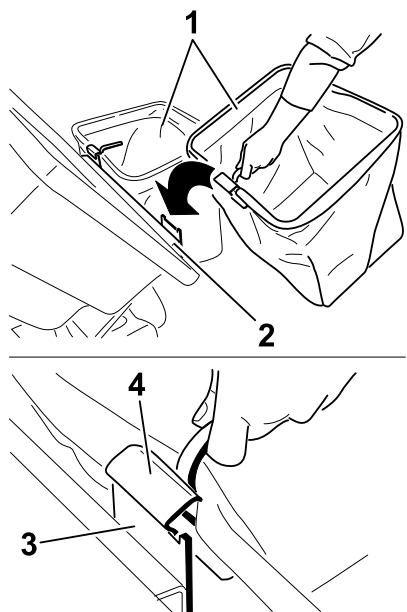

Figure 14
- Lift the bagger top and install the bags by sliding the bag frame hooks onto the retaining brackets (Figure 14).